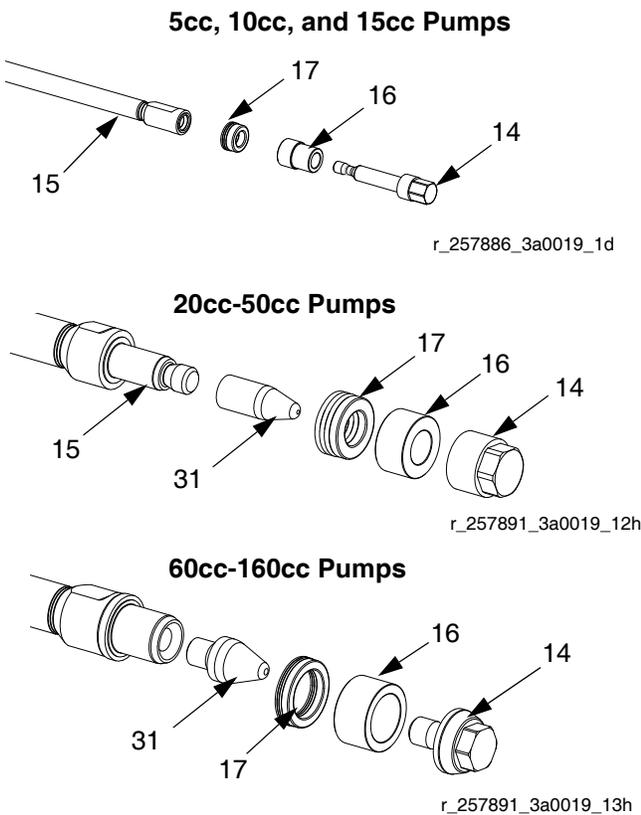

FIG. 1: S1, S3 & S4 Pumps Piston Assembly Tool (31)
To prevent damage to seals always use piston assembly tool (31) and rod installation tool (30) from repair kit when assembling the piston seals and displacement rod. See FIG. 1 and FIG. 3.